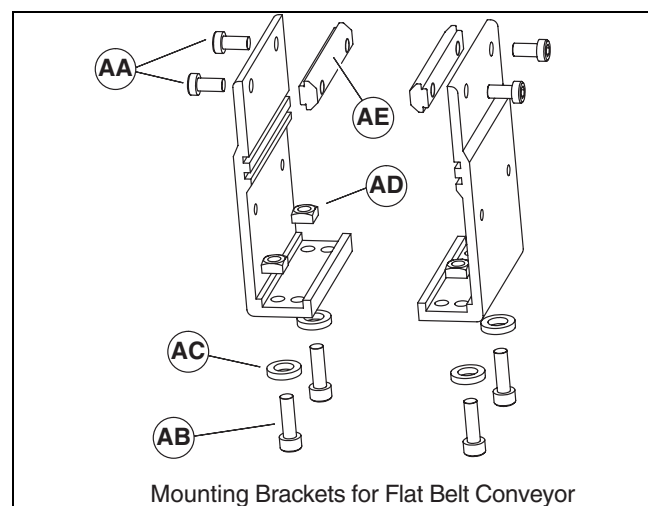
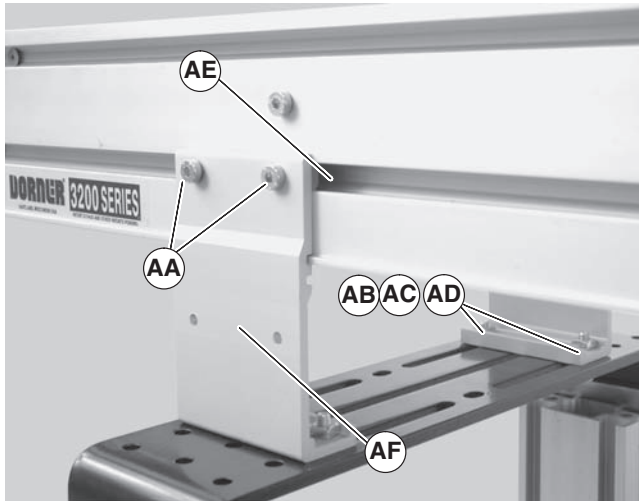

Figure 10
Figure 11
1. Locate brackets. Exploded views shown in Figure 10.
2. Remove screws (Figure 10, item AA & AB), washers (AC), nuts (AD) and T-bars (AE) from brackets.
3. Insert T-bars (Figure 10, item AE) into conveyor side slots (Figure 11, item AE). Fasten brackets (Figure 11, item AF) to conveyor with mounting screws (AA).
4. Fasten brackets to support stand with mounting screws (Figure 11, item AB), washers (AC) and nuts (AD).
5. Tighten screws (Figure 11, item AA & AB) to 60 in-lb (7 Nm).